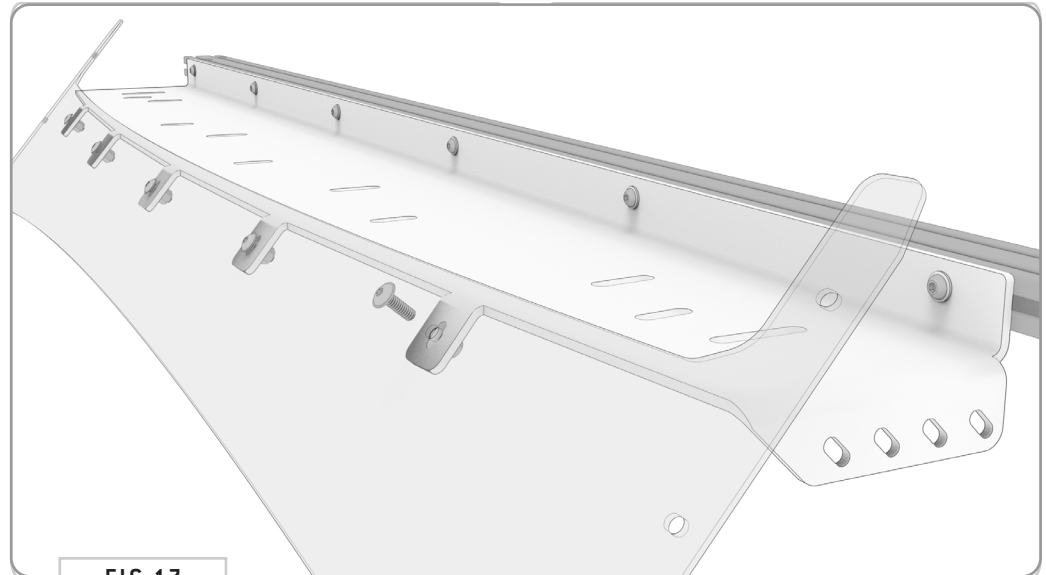

FIG 17
**5.3 Attach Front Fairing:** Attach the **Front Fairing** to the Assembly using **1/4-20 x 0.75 Flanged Button Head Screws, Flat Washers and Nylon Locknuts (FIG 17+18).**